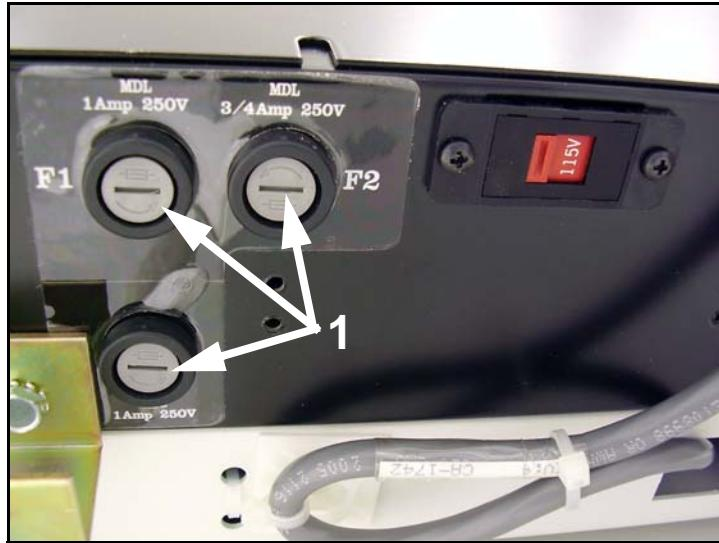
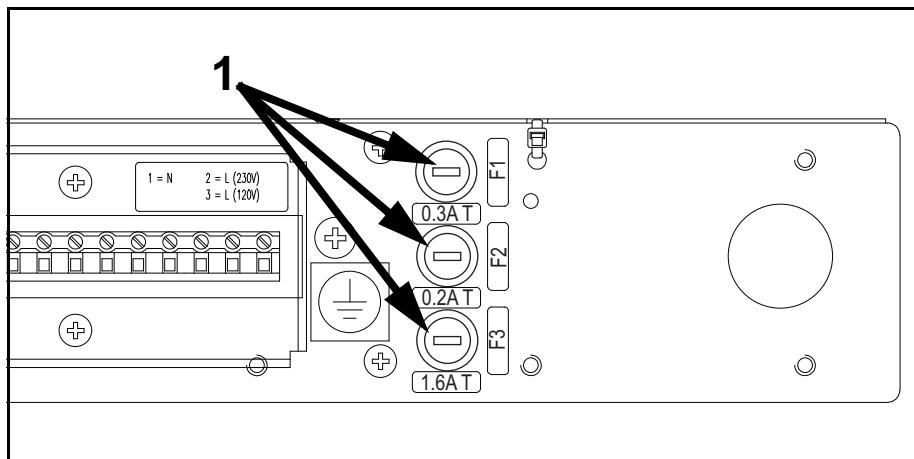

Figure 6-2. Progeny Bucky Fuse Caps.
Figure 6-3. Potter (Villa) Bucky Fuse Caps
- 2 Remove bucky fuse caps (1 in Figure 6-2 or Figure 6-3) and check fuses. Replace as necessary.